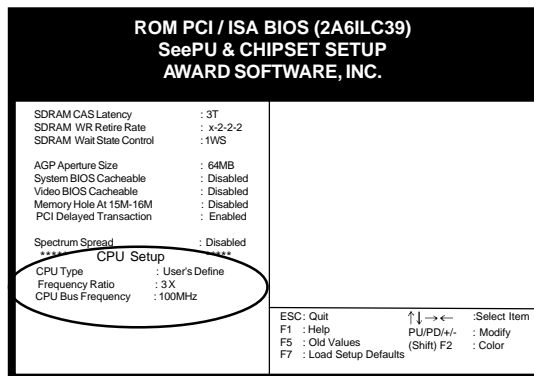

Figure 2-4
- Use the User Define option to custom set your CPU's parameters. Set the frequency ratio (also known as external clock multiplier factor) and CPU bus frequency according to your processor's specifications. See Figure 2-4.